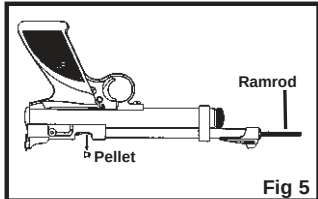

Fig 5
- Hold the airgun as noted in Figure 5 with the bolt in the open position, insert a ramrod in to the muzzle end of the barrel and gently push the jammed pellet in to the pellet loading port (forward of the bolt).
The rear sight may be adjusted to shoot higher or lower (elevation). Loosen the elevation adjustment screw by turning it counterclockwise. Move the sight up to make the pellet hit higher on the target. Move the sight down to make the pellet hit lower on the target. Then tighten the elevation adjustment screw by turning it clockwise. (Fig. 5)
- Push the jammed pellet into the pellet loading port (forward of the bolt). (Fig. 5)